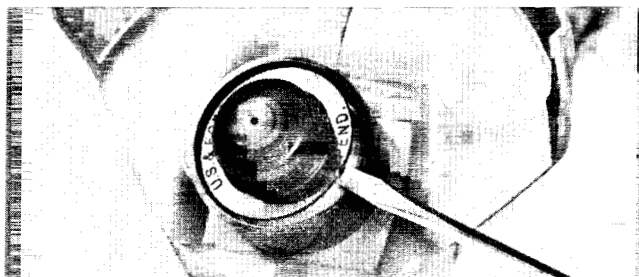

Figure 1.11a
1.11 REMOVING DIFFICULT SPOOL CAPS CORDLESS TRIMMERS (fig. 1.11a)